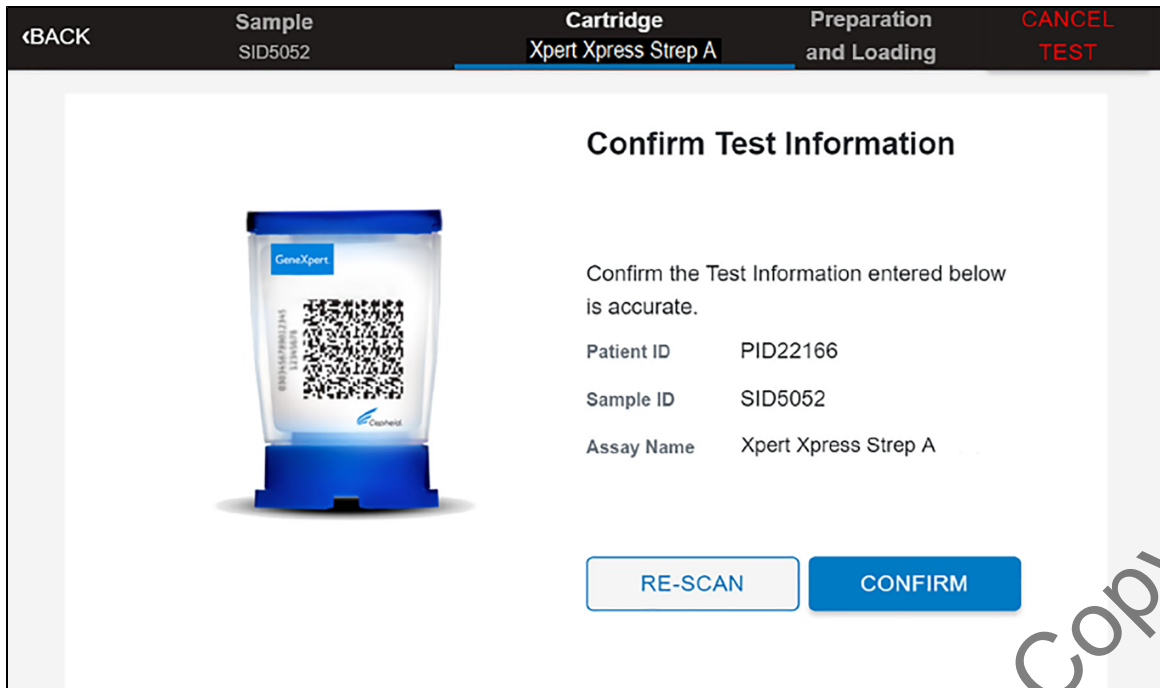

Figure 15. Confirm Test Information Screen
5. Select the appropriate cartridge with the sample and scan the cartridge barcode. After scanning, the **Confirm Test Information** screen displays (see Figure 15).